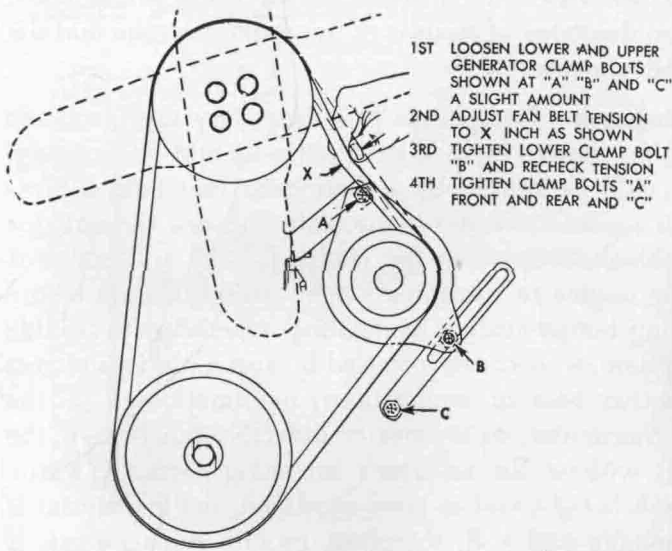

FIG. 14-6. Method of checking and adjusting fan belt on one car. The dimension X varies with different models.
8. *Testing fan belt.* Fan-belt adjustment should be checked by pressing in on the belt (engine not running) halfway between the generator pulley and fan pulley, as shown, for example, in Fig. 14-6. The amount of deflection that the belt will undergo varies with different makes of car. Belt tension is adjusted by loosening the generator mounting clamp screws and moving the generator toward or away from the engine block. The fan belt should be checked every few thousand miles to make sure that it is still in good condition. A belt that has become worn or frayed or that has separated